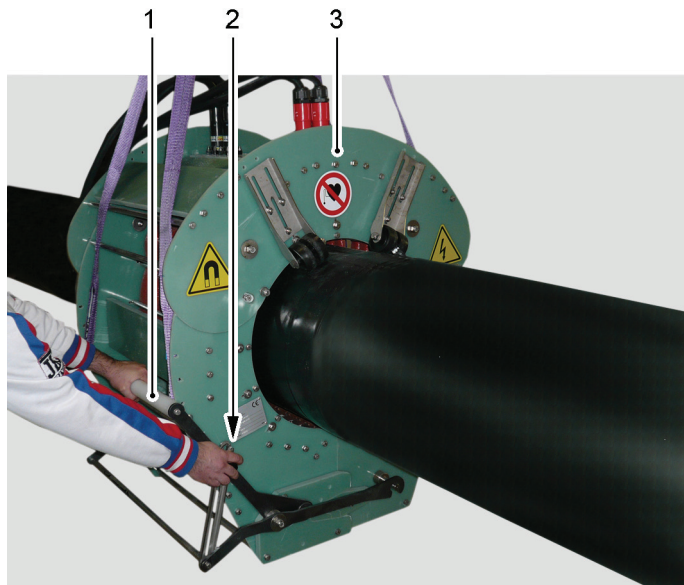

Figure 6.26 - Locking of the handle for opening/closing the clamp coil
- 8) Lock the handle (see Figure 6.26/1) for opening/closing the clamp coil (3) by means of the knob (2).